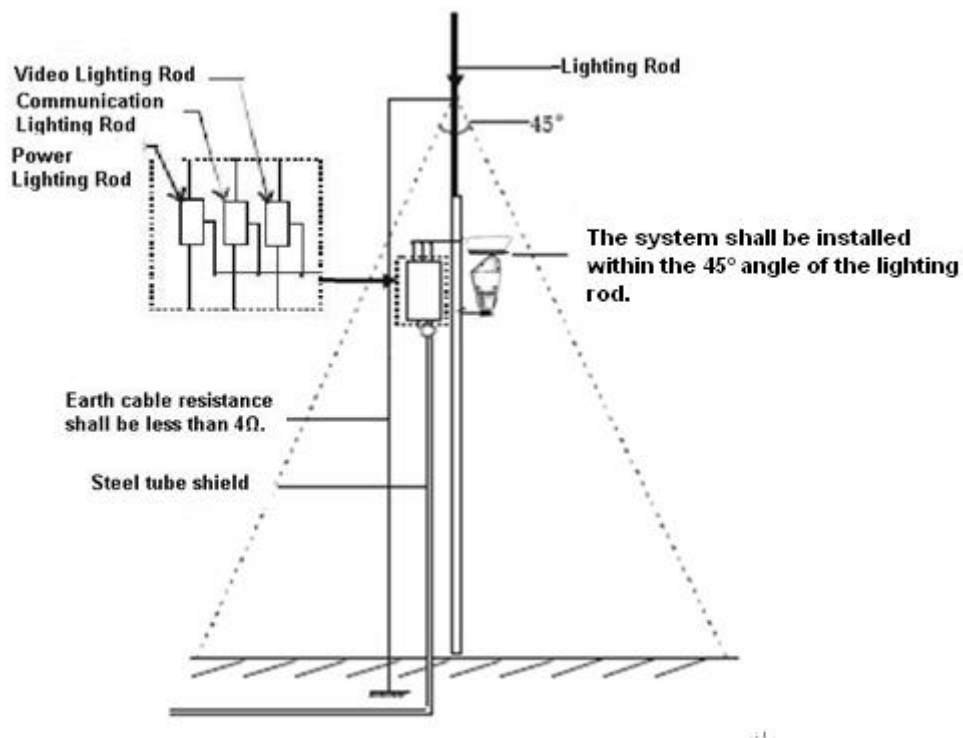

Figure 3-1
- System shall adopt equal-potential wiring. The earth device shall meet anti-jamming and at the same time conforms to your local electrical safety code. The earth device shall not short circuit to N (neutral) line of high voltage power grid or mixed with other wires. When connect the system to the earth alone, the earth resistance shall not be more than $4\ \Omega$ and earth cable cross-sectional area shall below $25\ \text{mm}^2$. See Figure 3-1.